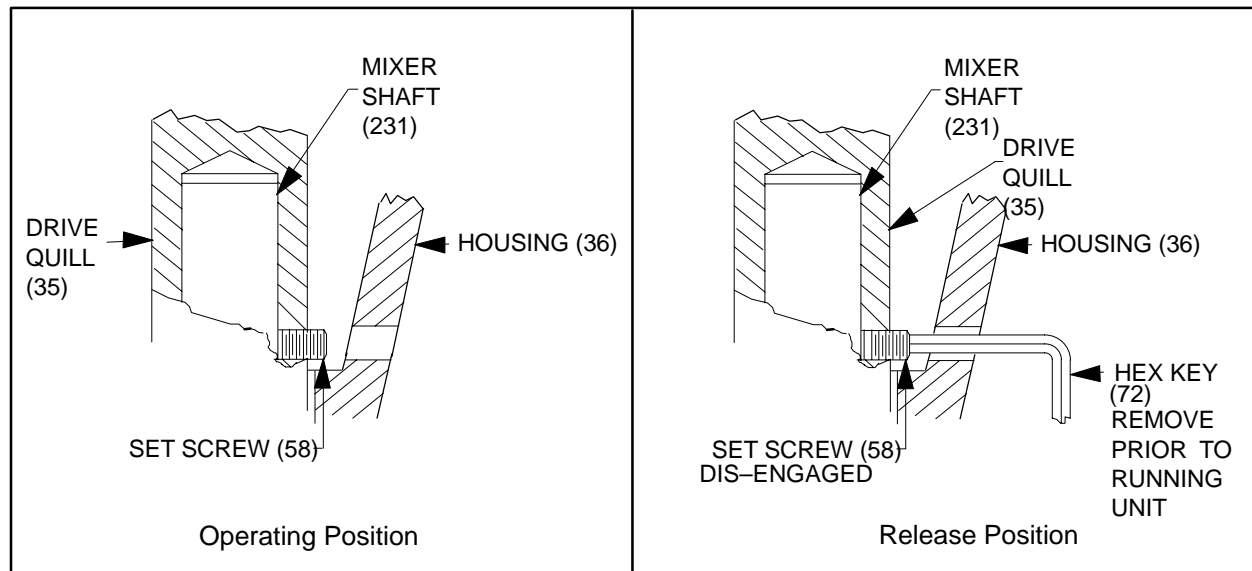

Figure 2 – Shaft Removal
- b. Grasp impeller by hand (or shaft with a strap wrench) and rotate mixer shaft (231) until the drive quill set screw (58) aligns with the access hole in the housing (36). See Caution above.
- c. With hex key (72) loosen set screw (58) and back out two (2) turns. See Figure 2.